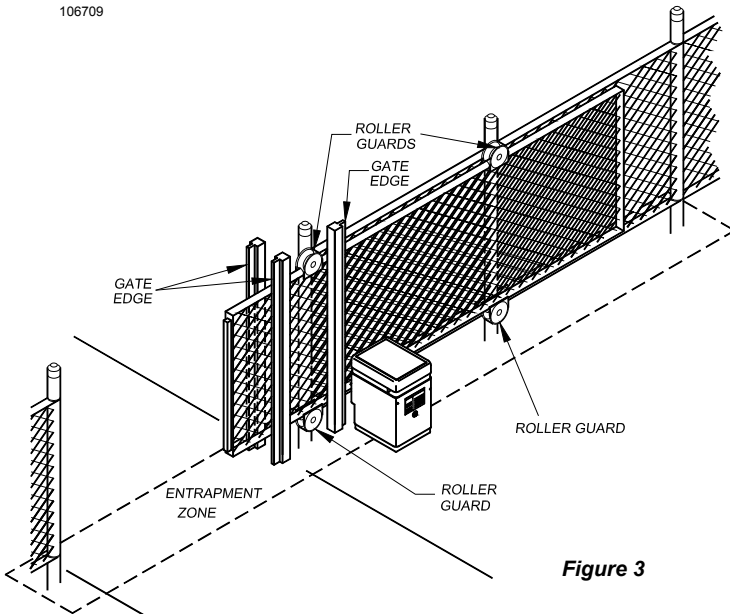

Figure 3
- Use the illustration at left (Figure 3) and the information and diagrams on pages 11, 12, and 13 to minimize the risk of injury in your design of the swing gate operator system. **IDENTIFY THE ENTRAPMENT ZONES AND PINCH POINT AREAS IN YOUR GATE.** Design the gate installation to minimize the risk of entrapment in these areas. Install additional safety equipment such as four wire edges and photocells to further minimize risk. All entrapment zones are required to be protected.
- **Entrapment Zones:** Design in personal entrapment protection devices to protect people from entrapment in the zones shown in Figure 3 and the information and diagrams on pages 11, 12, and 13. Install vertical posts with gate edges attached on both sides of the gate to prevent body entrapment.
- **Pinch Points:** Use protective measures (guards, padded edges, etc.) to protect people from the pinch points shown in Figure 3 and the information and diagrams on pages 11, 12, and 13. Attach roller guards in cantilevered gate systems to minimize the risk of hands being caught between the top of the gate and the roller.